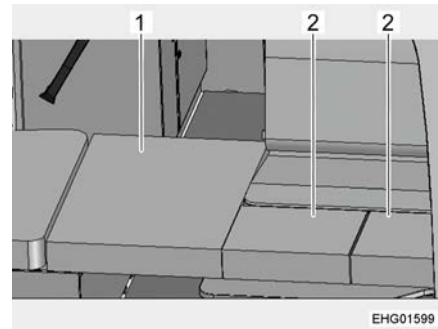

Fig. 146 After conversion
- Place the large additional cushion (Fig. 146,1) on the support board in the aisle.
- Place the small additional cushions (Fig. 146,2) on the table.